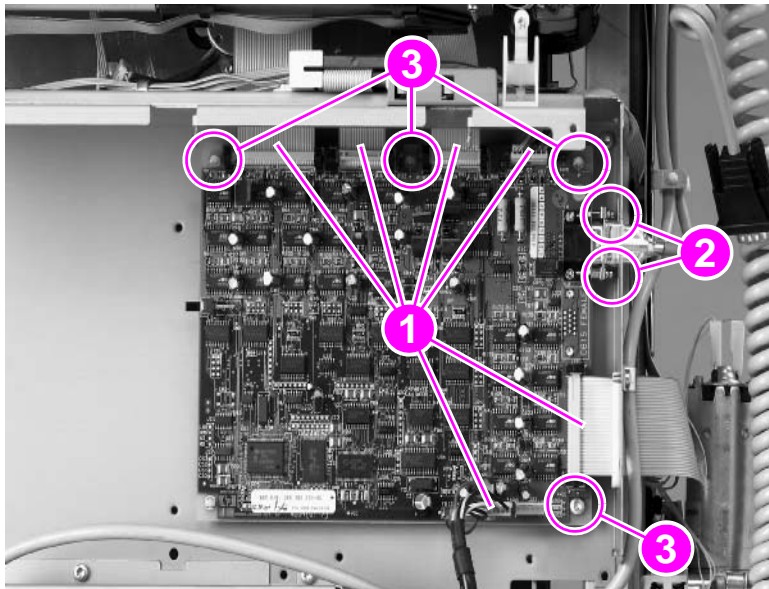
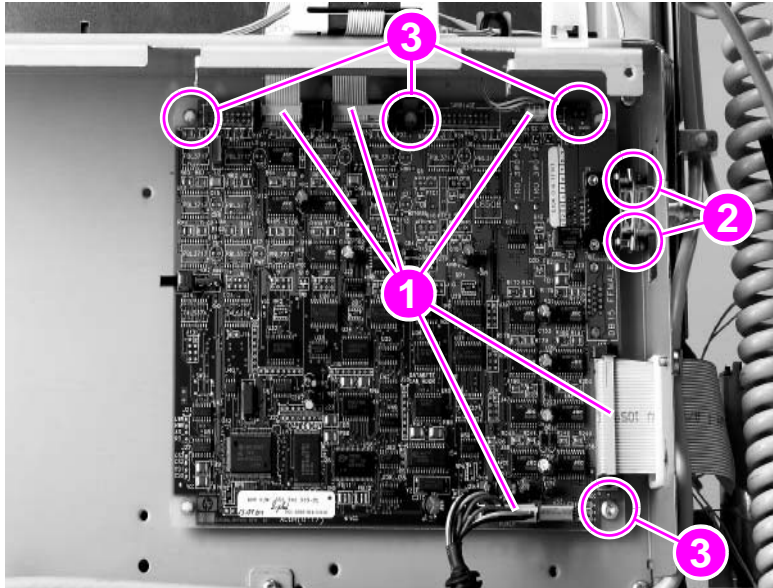

Figure 117. Stapler/stacker controller PCA
Figure 118. Stacker controller PCA
See figure 117 for the stapler/stacker or figure 118 for the stacker.
- 2 **Stapler/stacker:** Unplug four ribbon cables, the power cable, and the LED cable (figure 117, callout 1).
Stacker: Unplug three ribbon cables, the power cable, and the LED cable (figure 118, callout 1).